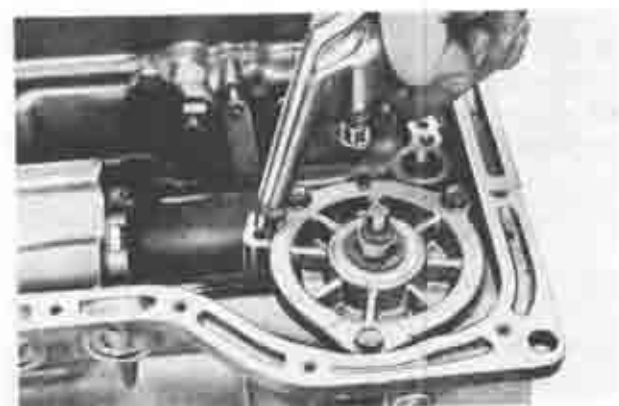

Fig. 2-33 Checking band servo (2)
9. Back off the three attaching bolts slightly and uniformly, and apply compressed air into the oil hole on the servo piston release side, as in Fig. 2-33. If the retainer rises by the extent of bolt backing off, the piston operation on release is normal. Tightening torque of the servo retainer is 0.35~0.45 m·kg (2.5~3.2 ft·lb).